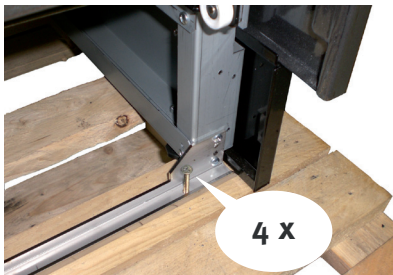

Figure 1
2. Remove the 4 transport-securing screws. (Figure 1)